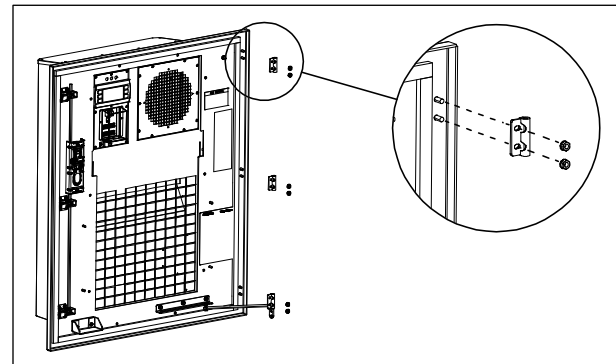

Figure 4 Remove Hinge Plates
6. Remove the three hinge plates from the CUBE door (Figure 4). Add these hinge plates to the studs on the back of the new front door included with the kit.